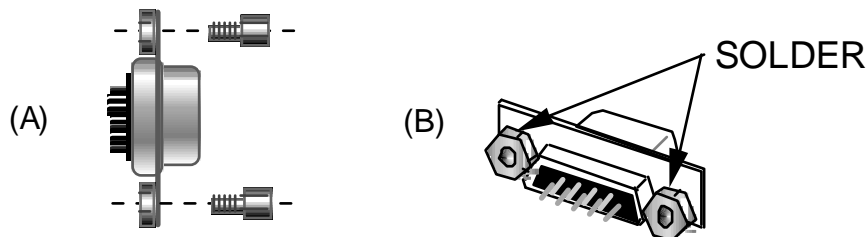

Figure 1
Locate two male/female hex standoffs and two brass nuts. Temporarily insert the standoffs through J1 from the socket side, and secure them *hand-tight only* with the brass nuts as shown in Figure 1 (A).
Solder the brass nuts to the D-connector (J1) at the locations shown in Figure 1 (B). This is best accomplished by using the tip of your soldering iron to heat both the nut and flat portion of J1 at the same time. If you cannot melt solder onto the brass nut after heating this junction for about 8-10 seconds, use a larger iron. Avoid overheating the connector, which could melt the plastic surrounding the solder cups.